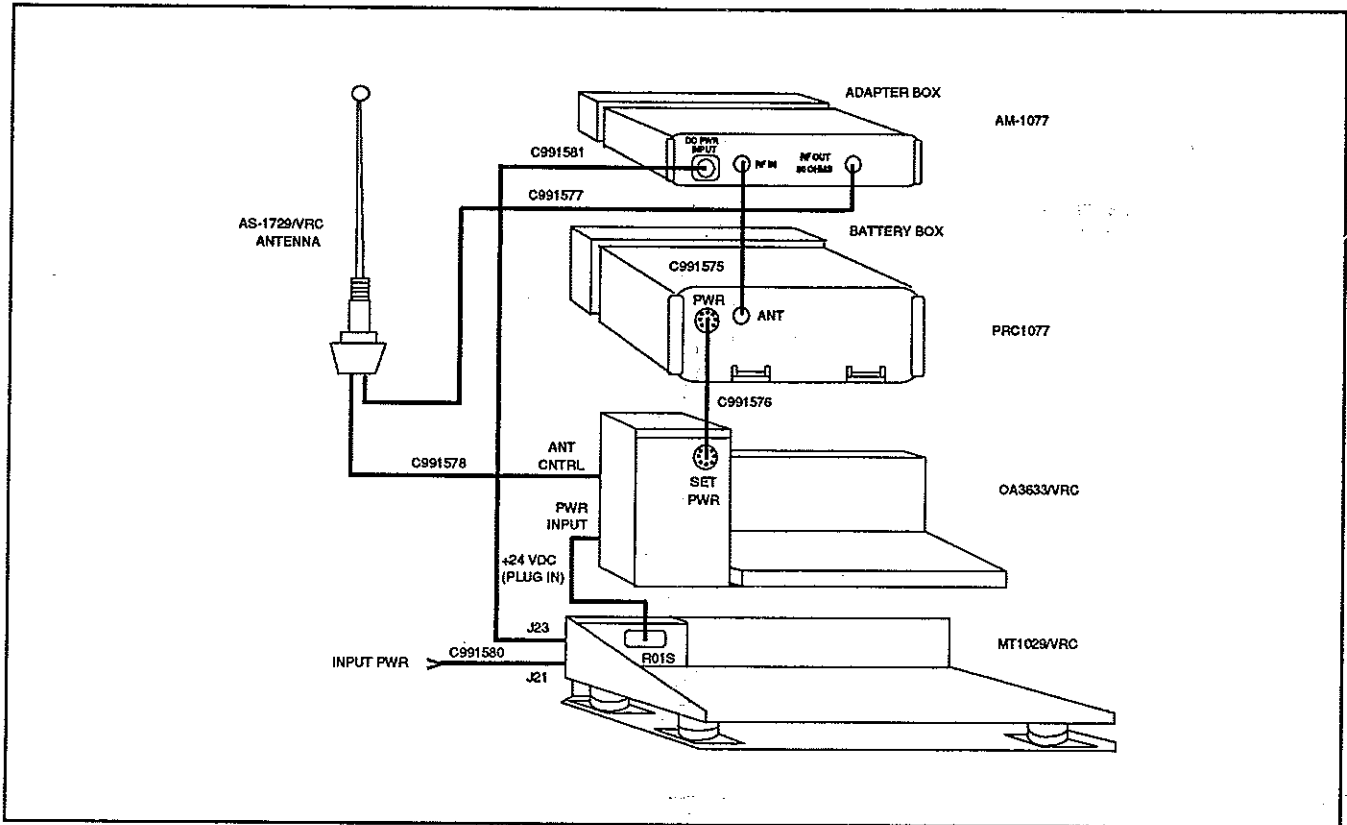

FIGURE B-11.
a. The PRC1077 can be used in a mobile configuration with the AM-1077 power amplifier and standard U.S. Military mount as shown in Figure B-11.
4. Hook up the correct cables as shown in Figure B-11.